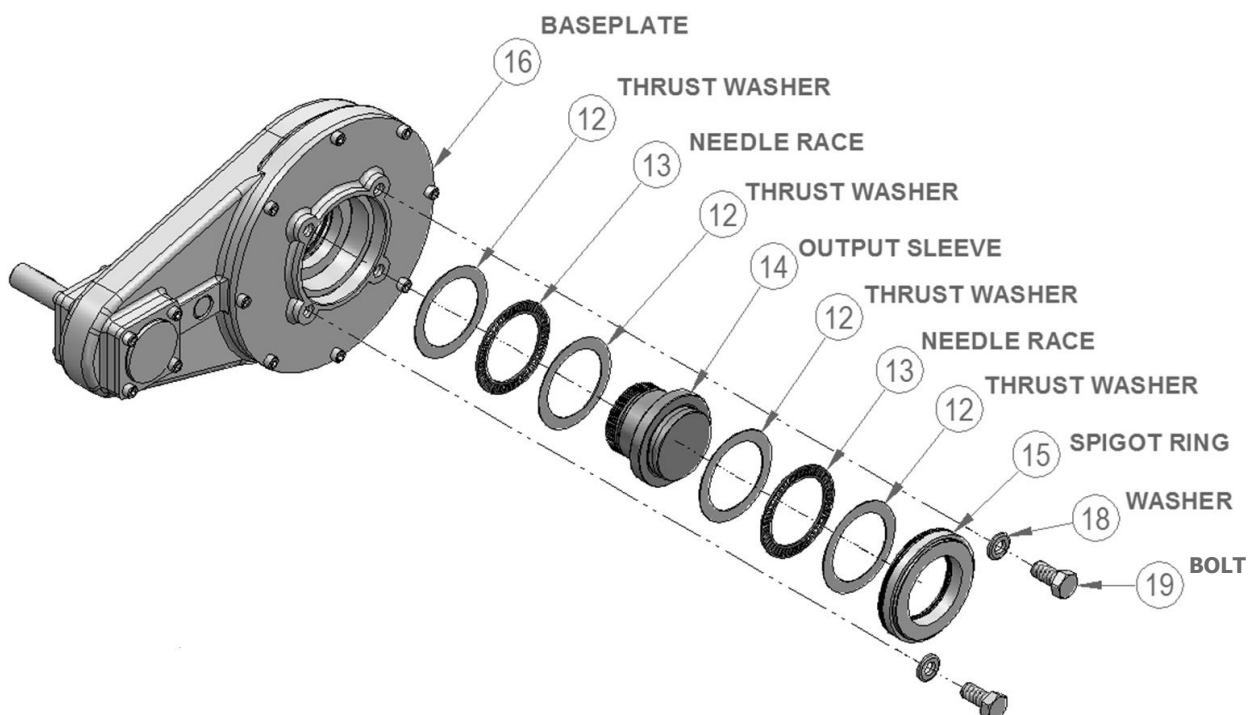
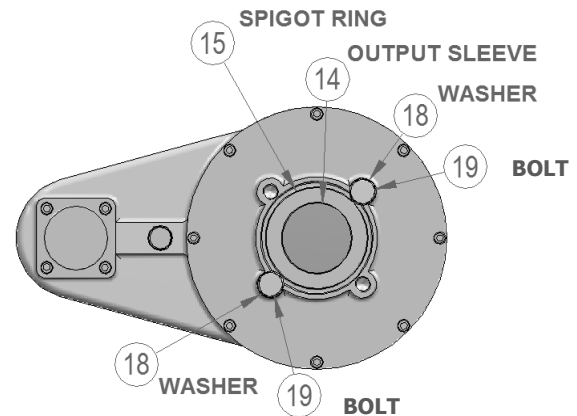

Figure 7 – Bevel and Spur Gearbox Output Sleeve Assembly
Figure 10 - Securing Spigot Example
! We recommend fitting a bolt and washer system onto the baseplate of bevel and spur gearboxes before moving them, as illustrated in Figure 7 and Figure 10.
Refer to Figure 7. The output sleeve arrangement is identical for all gearboxes although large gearboxes have cylindrical roller thrust bearings instead of needle roller bearings.
- ! **IMPORTANT:** The thrust bearings in the output **MUST** be fitted correctly, along with the output sleeve and the spigot ring. Refer to Figure 7. The thrust bearings (13) **MUST** have a thrust washer (12) at each side of the bearing. A bearing / washer assembly **MUST** be fitted at each side of the output sleeve thrust shoulder.
! We recommend fitting a bolt (19) and washer (18) fixture into the base of the gearbox as illustrated in Figure 7 and Figure 10. Note that the washers must overlap the spigot ring (15). This will stop the output sleeve assembly from becoming detached from the main body. The bolts and washers are not supplied by Rotork.